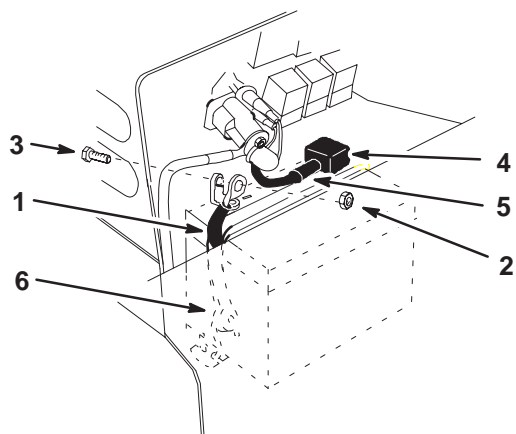

Figure 37
5. Disconnect the negative (black) ground cable from the battery post (Fig. 37).
6. Lift the red cover up from the positive cable. Disconnect the positive cable (red cover) from the battery post (Fig. 37).
7. Remove the battery hold down strap (Fig. 37). Remove battery from the tractor.
2. Secure battery with hold down strap (Fig. 37).
3. Using the bolt and nut, connect the positive (red cover) cable to the positive (+) battery post (Fig. 37). Slide the rubber cover over the battery post.
4. Using the bolt and nut, connect the negative (black) cable to the negative (-) battery post (Fig. 37).